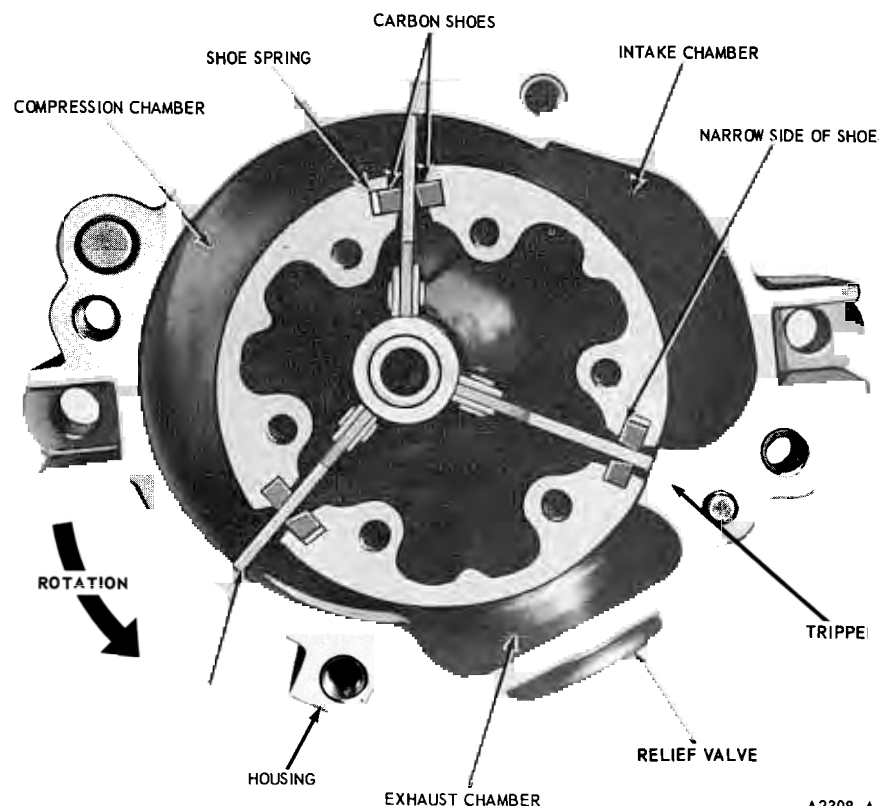

FIG. 8—Vanes, Carbon Shoes and Springs Installed in Rotor
4. Locate the vane (Fig. 8) that is attached to the bearing nearest the cover assembly (rear of pump). Grasp it with the fingers and pull it as far as possible out of the rotor. Then pull the other vanes out as far as possible. Alternately pull each vane until they are free of the rotor. If the carbon shoes and shoe springs move out of the rotor as the vanes are being removed, push down on the carbon shoe next to the shoe spring. Then remove the shoe spring. This will aid in removal of the vanes.
4. Mesh the bearings of the vane assemblies so that the ends of the vanes are even, and install the vanes in the rotor (Fig. 8).
5. Install the carbon shoes in the rotor. **One side of each shoe is not square with the other sides.** The shoes must be installed with the narrow edge towards the vane bearings as shown in Fig. 8 and the slant side against the vane.
Position the vanes with one vane against the stripper part of the housing as shown in Fig. 8.